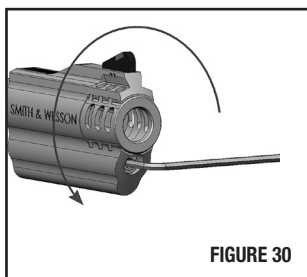

FIGURE 30
3. Insert a 2.5mm hex wrench into the screw under the compensator, (below the muzzle opening). While holding the compensator with your fingers, turn the wrench COUNTERCLOCKWISE until the lock screw stops (2-3 turns). DO NOT OVER-TIGHTEN! (FIGURE 30).